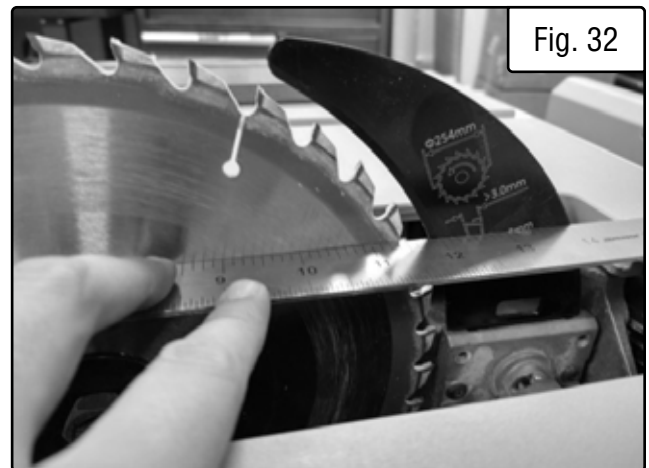
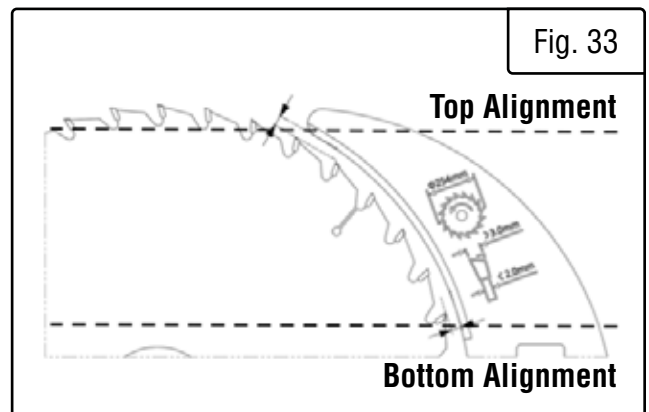

Fig. 32
Fig. 33
5. Place a straightedge against the blade and riving knife (Fig. 32), first on the bottom of the riving knife, then the top, to ensure both components are parallel and aligned (Fig. 33).
10. To move the knife back or forth, adjust 1 top and 1 bottom set screw on the same side. Do the same for the opposite side. Make sure the riving knife is between 1/8" - 5/16" (3 - 8mm) away from the blade teeth at all points (Fig. 33). Do the same for the opposite side.